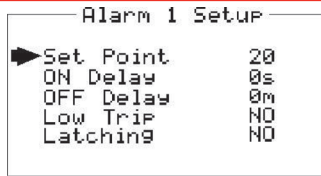

Figure 2-4. Alarm Setup Menu
**Alarm 1, 2 and 3** have identical menus. The only difference is that A1 LED indicators are yellow while A2's and A3's are red. Typical applications often have A1 set at a WARN level, A2 at a HIGH level and A3 at a negative FAULT level. However, it is important to understand there is no functional difference between A1, A2 and A3, therefore only one is shown in Figure 2.4.